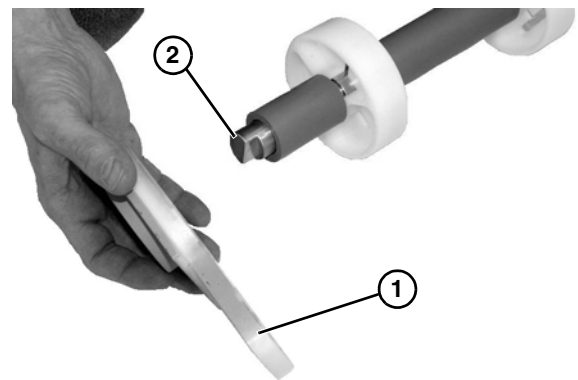

Figure 62
- Slide off idler head plate (**Figure 62, item 1**) from shaft (**Figure 62, item 2**).